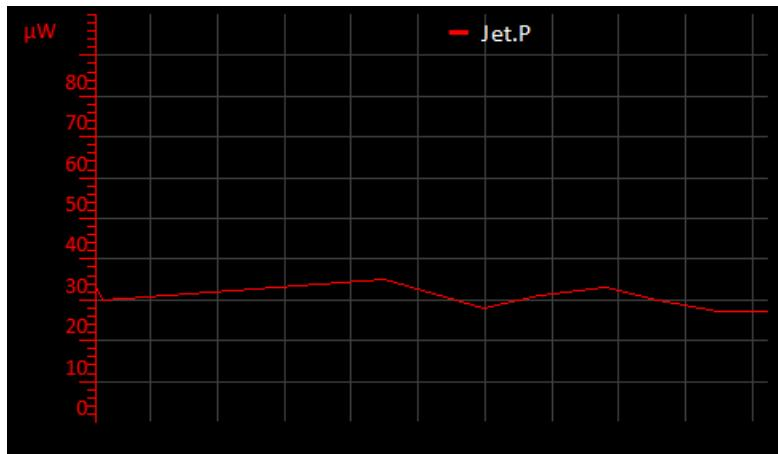
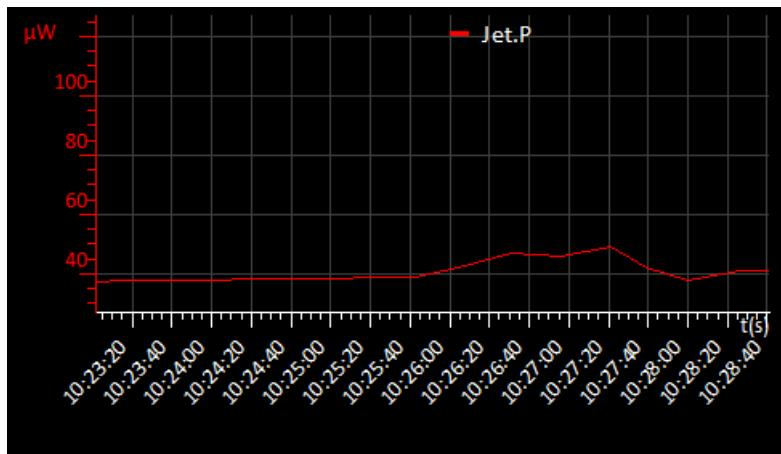

Figure 6-1 Signal Monitor Plot page with Y axis scale only
Figure 6-2 Signal Monitor Plot page with X and Y axis scales
- 6 By default the Plot page displays a scale on the Y-axis only (see Figure 6-1). To add the X axis scale, tap once on the bottom of the X axis (see Figure 6-2).